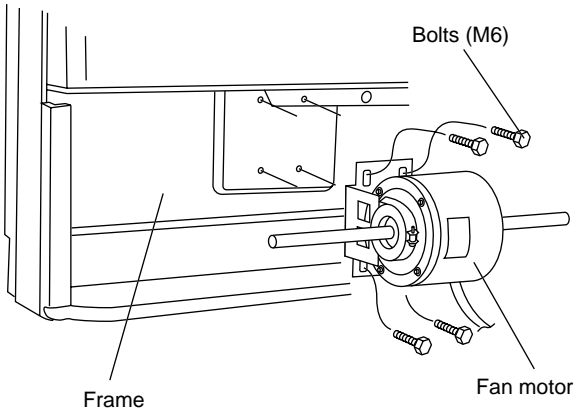

Fig.15
(4) Remove the 4 bolts to remove the fan motor from the frame. (Fig. 15)